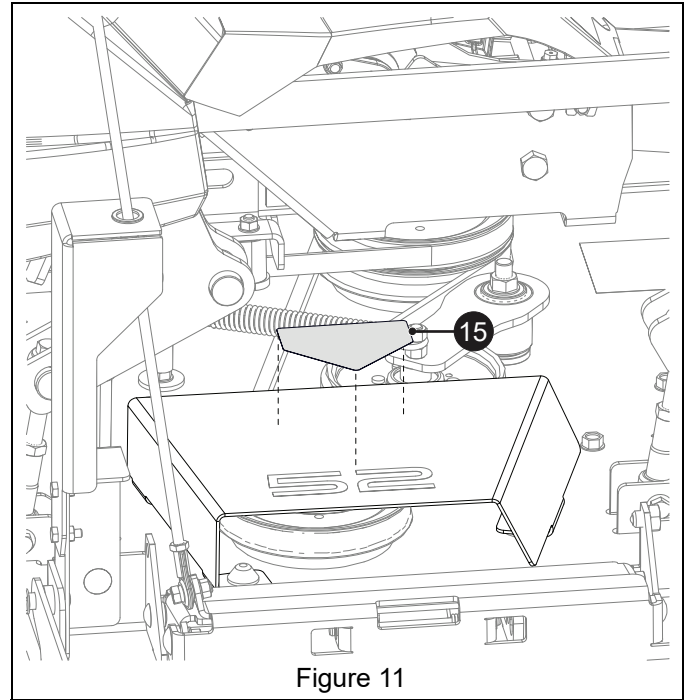

Figure 11
13. Thoroughly clean deck surface and install safety decal on deck. See Figure 11.